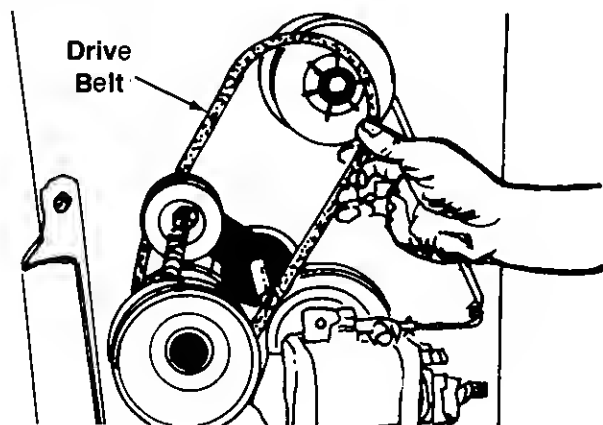

FIGURE 33.
11. Remove and replace the "V"-belt. See figure 33.